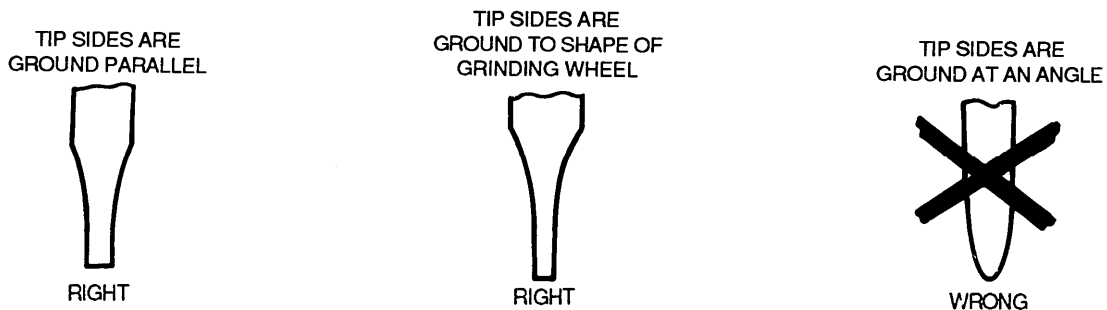

Figure 4-19. Screwdriver Tip Grinding
(1) Common screwdrivers. When grinding common screwdrivers, the tip should be squared and the sides parallel, as shown in figure 4-19.
(2) Cross-point screwdrivers. Phillips screwdrivers require special holding fixtures for grinding but can be shaped in an emergency by filing if the original angles and bevels are maintained.